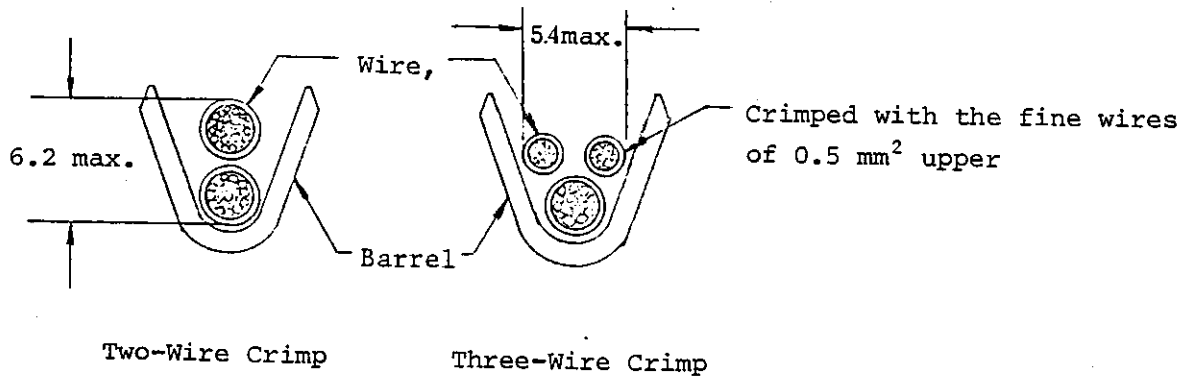

Fig. 4
2. For two- and three-wire crimp, wires shall be put together as shown in Fig. 4, and then crimped. The insulation diameters for two- and three-wire crimp shall be as specified in Fig. 4.